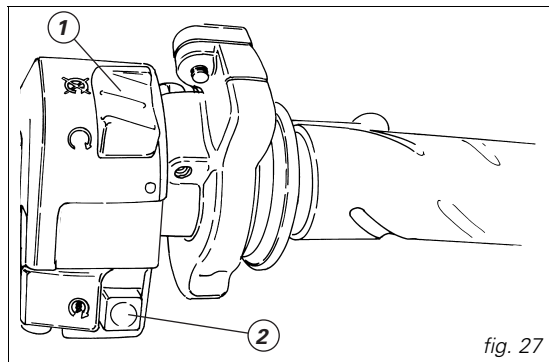

fig. 27
3) Check that the stop switch (1, fig. 27) is positioned to  (RUN), then press the starter button (2, fig. 27).